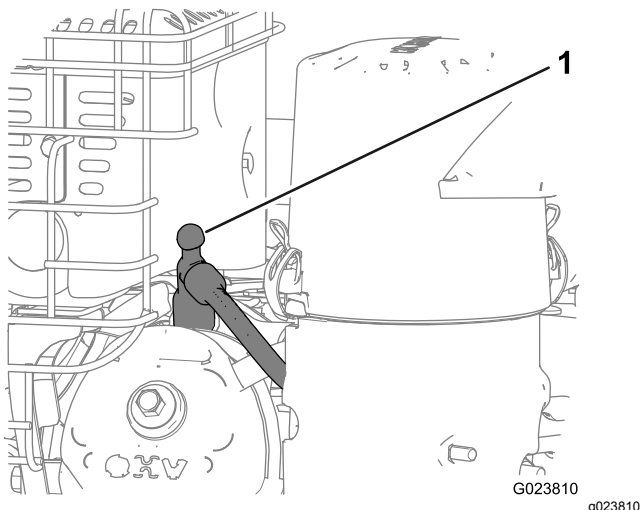

Figure 19
3. Disconnect the spark-plug wire from the spark plug and keep the wire away from the plug, to prevent accidental starting (Figure 19).